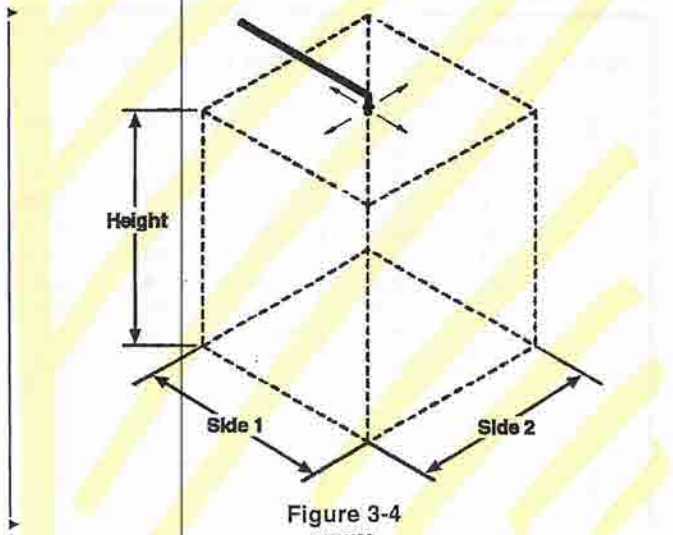

Figure 3-4
The nozzle is to be mounted in the center of the protected area, with the discharge holes in the nozzle no greater than six (6) inches from the ceiling. See Figure 3-4.